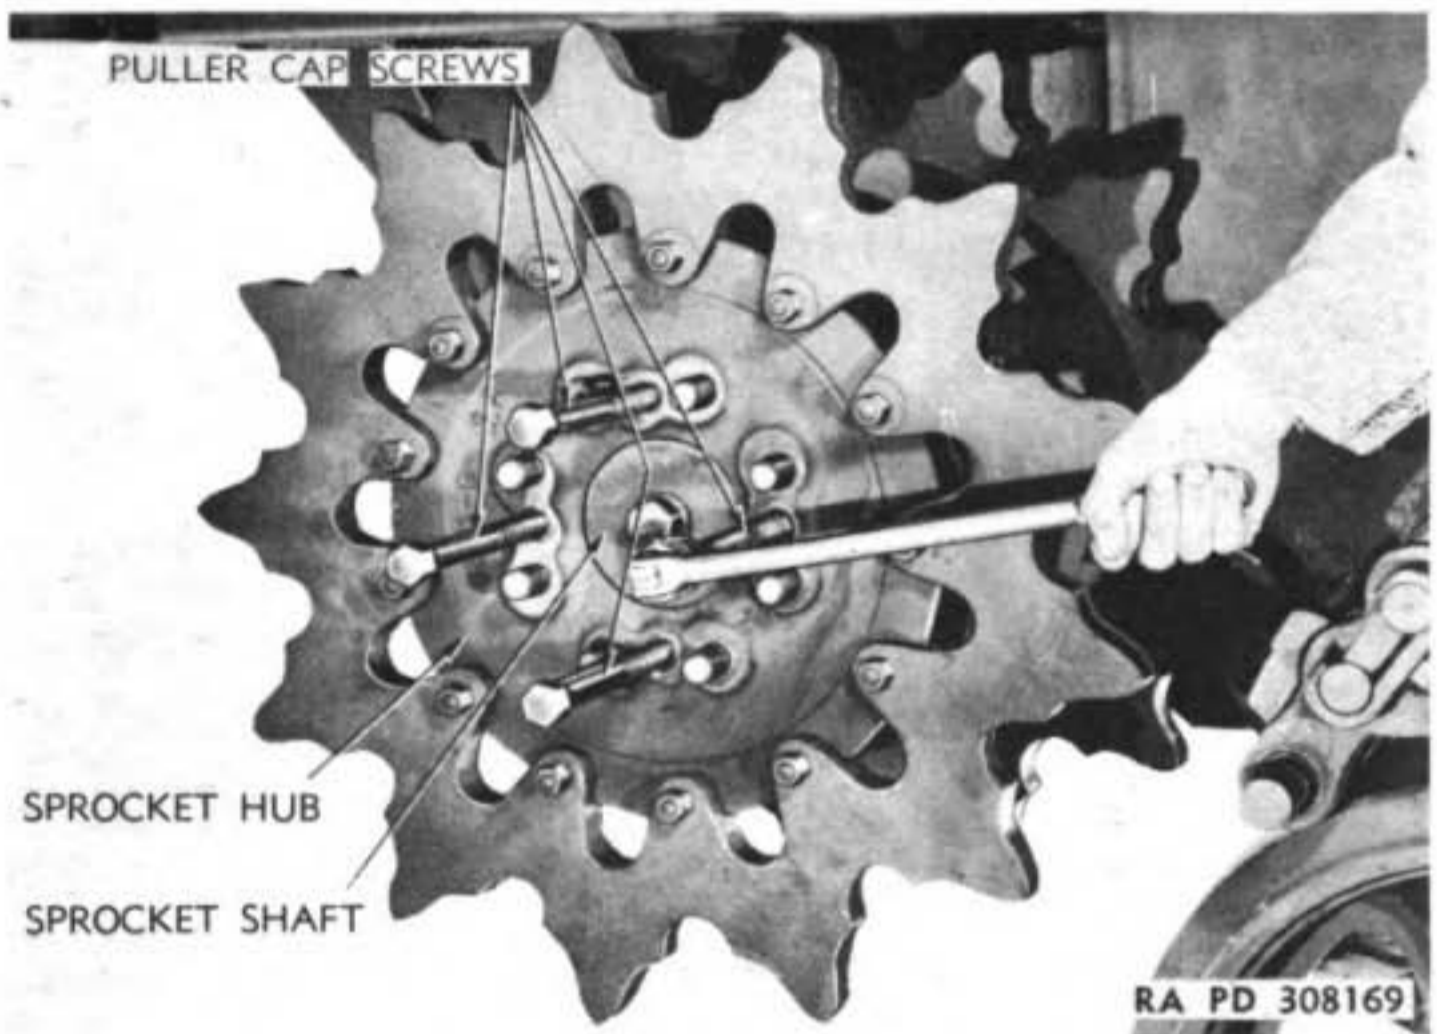
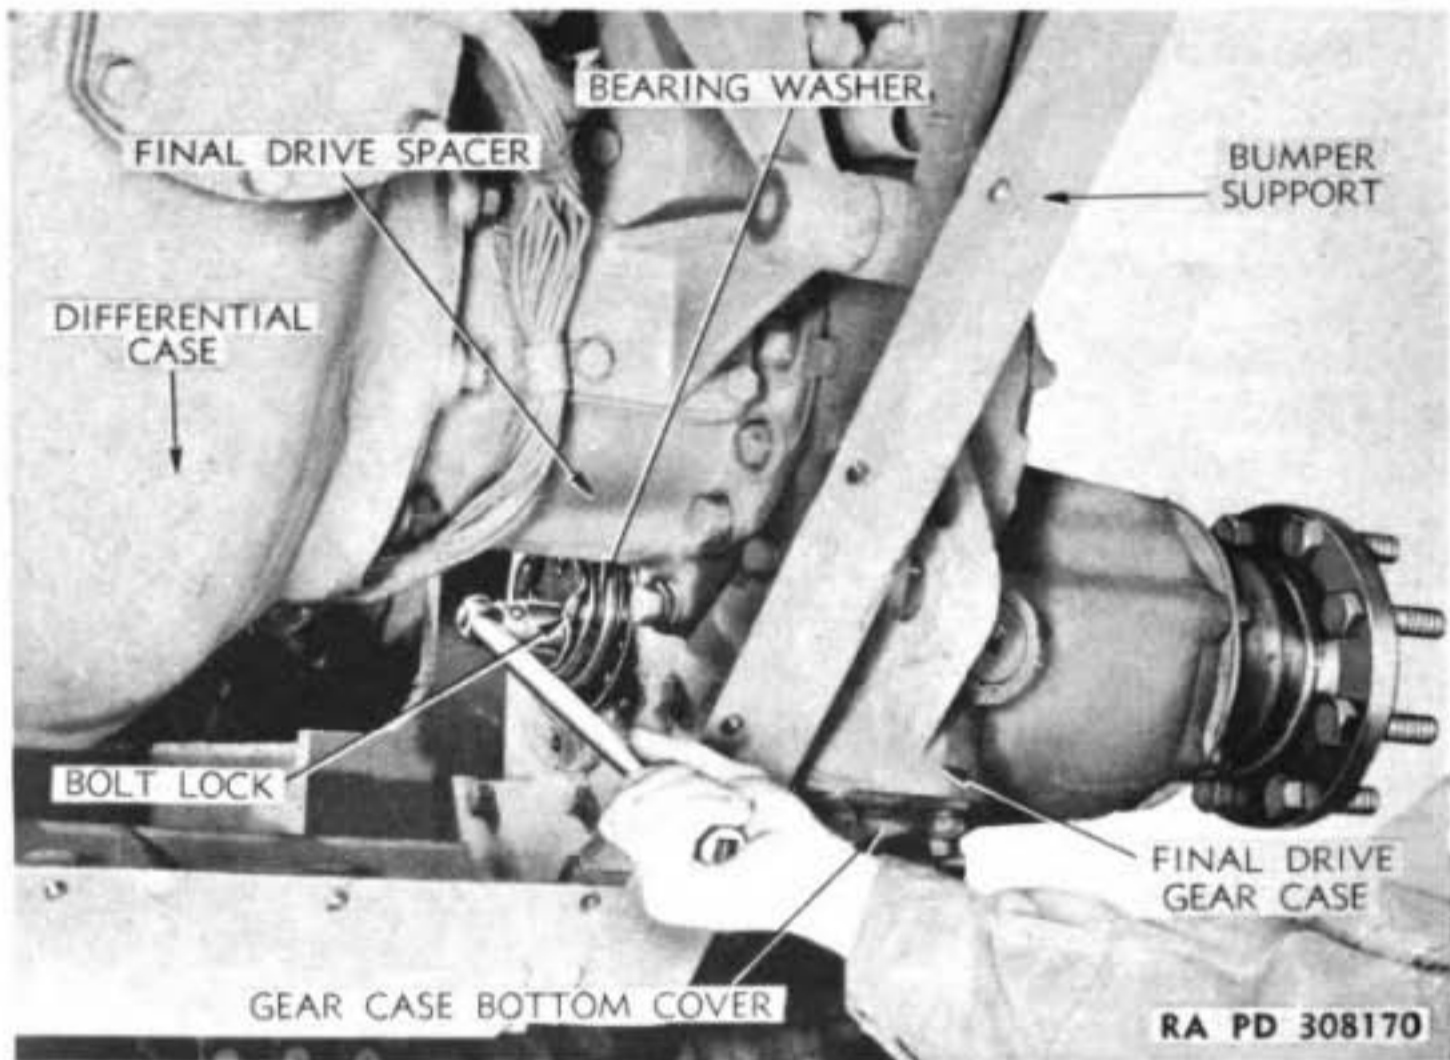

Figure 67 – Removing Sprocket Hub Assembly
Figure 68 — Removing Bearing Lock and Washer
b. **Removal of Complete Final Drive Assembly** (fig. 68). Disconnect tracks. Remove front plate from bumper supports by removing the 22 retaining cap screws. Place blocks between bottom of hull and differential case to support weight of differential and transmission. Remove the 10 bolts that attach final drive case to bumper
(1) **REMOVE SPROCKET SHAFT ASSEMBLY.** Drain oil from gear case and disconnect track. Remove the four puller hole plug cap screws from sprocket hub and install 4 puller cap screws (BCSX2CT) in their places (fig. 67). Turn these cap screws in evenly to force sprocket hub from shaft. Lift off hub. Remove front plate from bumper supports by removing 22 cap screws. Remove bottom cover from gear case by removing 12 cap screws. Remove the 6 cap screws from inner shaft bearing cap and remove the cap. Bend bearing washer bolt lock away from cap screw heads and remove the 3 cap screws (fig. 68) and the lock, bearing washer, and adjustment shims. Remove the 6 cap screws from seal guard and plate at outer hub of case, then remove the puller hole plug bolt from center of sprocket shaft and install the adapter (A-347829) for shaft puller (41-P-2957-100) (fig. 147) tightly in its place. Screw bolt of shaft puller tightly into adapter and operate sliding ram to pull shaft out of inner bearing. After shaft has been pulled out of inner bearing, remove shaft puller
d. Install Sprocket Shaft and Final Drive Gear. Insert final drive gear into gear case and support gear with center of gear in line with holes for shaft. Cement gasket to seal plate, then insert sprocket shaft through case, turn shaft so splines in end of shaft line up with splines in gear, and push shaft through gear. Install spring washer, bearing spacer, bearing cone, and roller assembly on inner end of shaft, then install bearing adjustment shims totaling 0.075 inch in thickness, bearing washer, and bolt lock at end of shaft with 3 cap screws (fig. 68). Adjust bearings so there is no end play in shaft and shaft can be turned by hand with a very slight drag. This adjustment is made by removing or adding shims under bearing washer. When correct adjustment of bearings has been made and cap screws in end of shaft tightened, bend sides of bolt lock against cap screw heads.